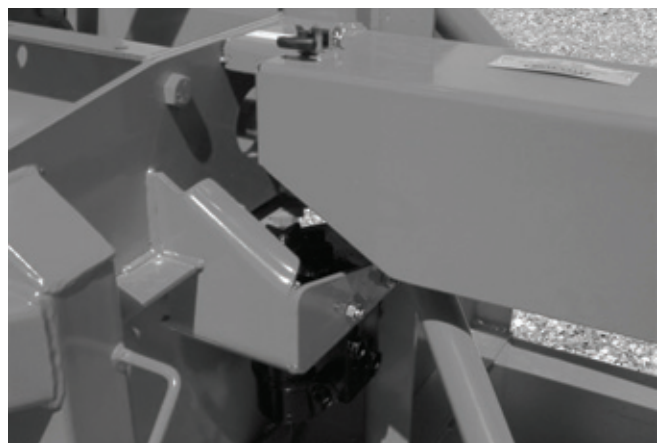

Figure 31
- 7) Close the drive shaft guard (Fig. 31).